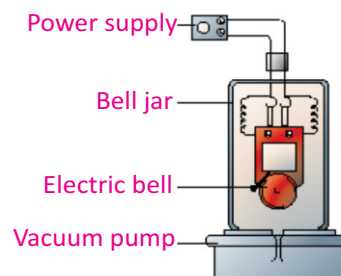

Fig. 11.5: Bell jar apparatus
**Activity 11.2:** Unlike light waves which are electromagnetic in nature and can also pass through vacuum, sound waves require some material medium for their propagation. This can be proved by bell jar apparatus (Fig. 11.5). The bell jar is placed on the platform of a vacuum pump.